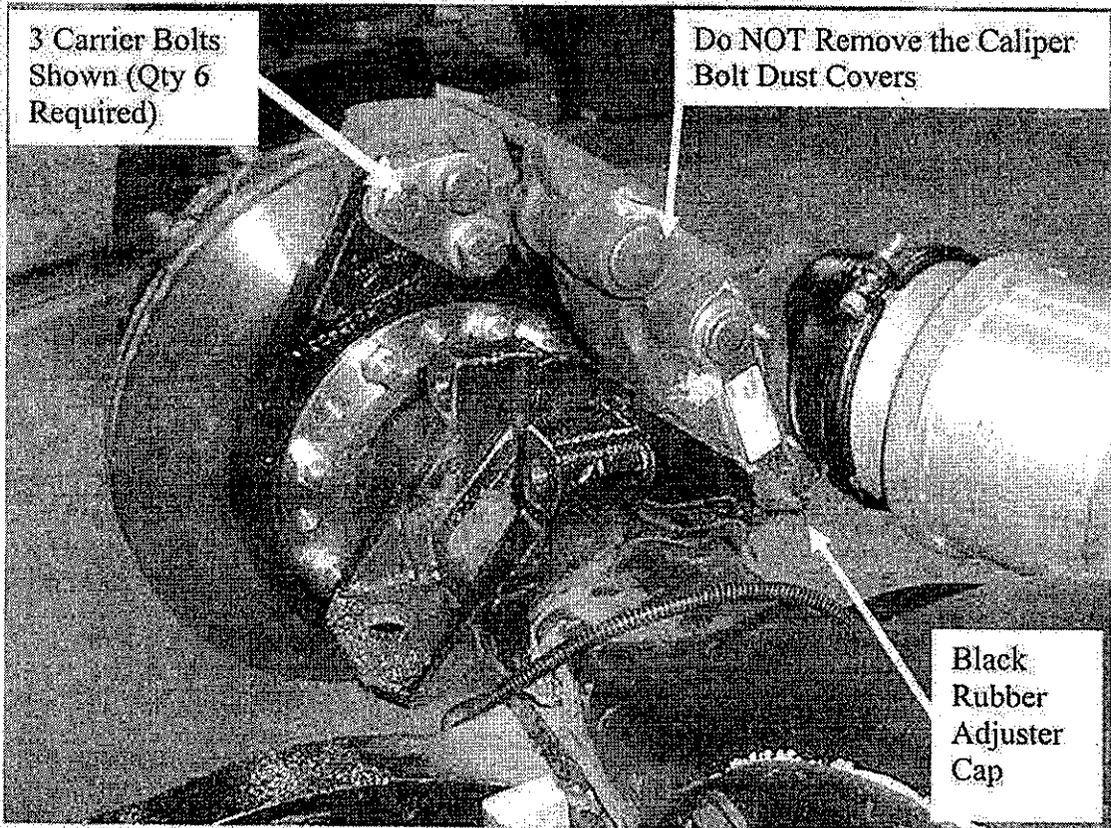

Fig. 2
- 6) Remove the black rubber adjuster cap located on the back side of the caliper. See Fig 2.
- 8) While supporting the caliper/carrier assembly, remove the six (6) carrier mounting bolts and remove the caliper/carrier from the vehicle.